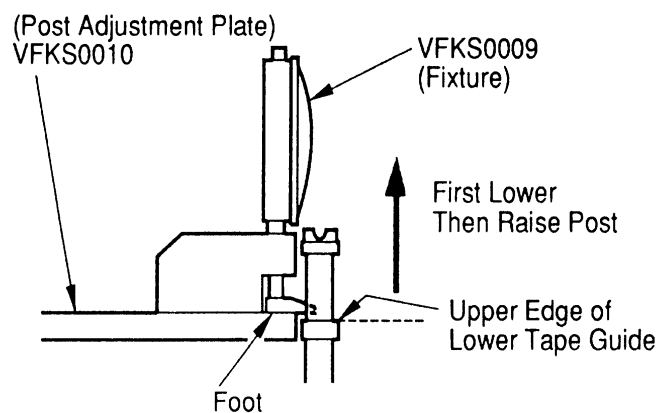

Fig. 6 - P2/P3 Post Height Adjustment
3. Place the fixture on the post adjustment plate (Fig. 6) and zero the fixture (**DO NOT** use the cut-out portion of the post adjustment plate).